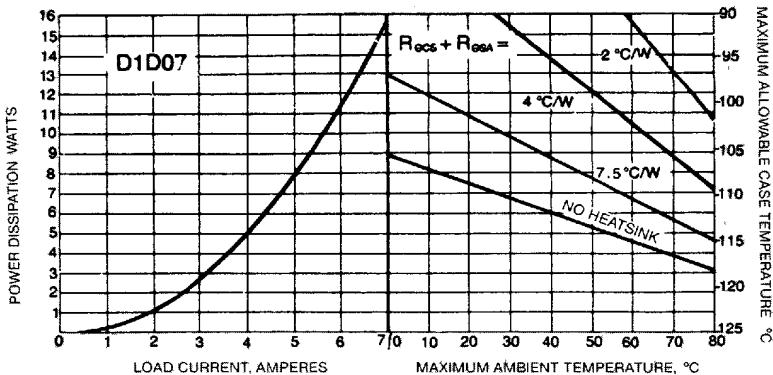

Figure 5. Thermal Derating Curves: 7 Amp, 100 Vdc
- ① See figures 5 thru 14.
Referring to figures 5 through 14 the left halves show power dissipation versus load current. The right halves are families of curves which are used in selecting the required heatsink to maintain a maximum case temperature for a given ambient. It is important to note that the thermal resistance values ($^{\circ}\text{C}/\text{W}$) shown include both case-to-heatsink interface (R_{OCS}) as well as the heatsink-to-ambient thermal resistance (R_{OEA}). Thus, when selecting a heatsink, the value of (R_{OCS}) must be subtracted from the number indicated by the curve in order to determine the required heatsink-to-ambient thermal resistance (R_{OEA}).